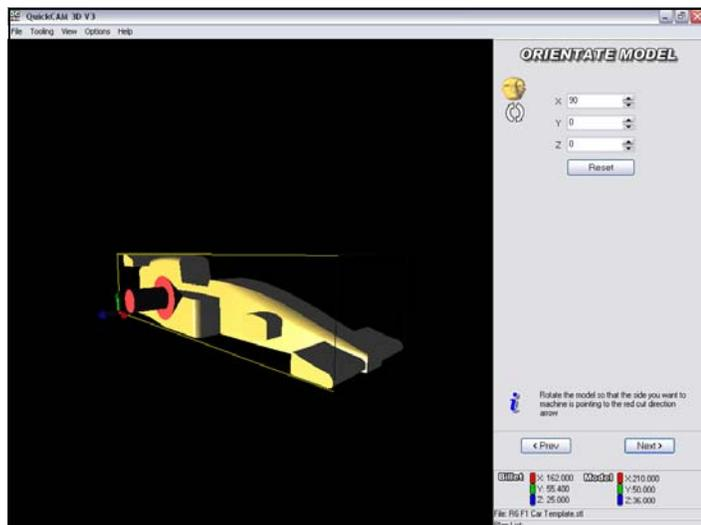

Figure 4 - View of Orientated Model
- The car must be rotated so that the rear of the car is to the left and the floor is to the bottom of the screen as shown in Figure 4.